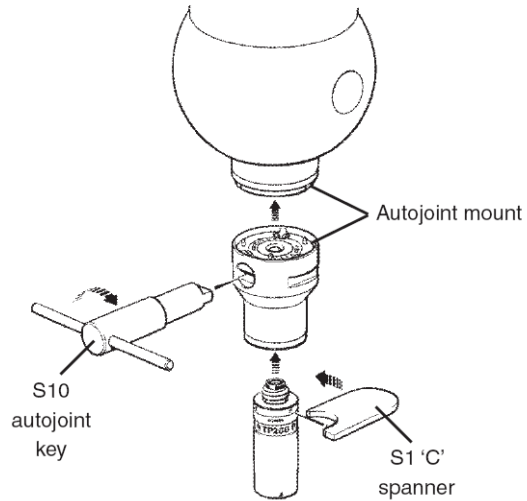

Figure 2: Fitting the TP200 probe sensor to a probe head with an autojoint
2. Mounting the probe body on the probe head with Renishaw autojoint (see figure 2)